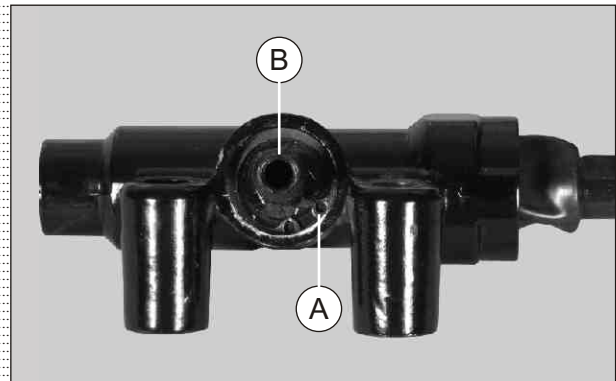

Fig. 6.115
- By firmly holding master cylinder housing, remove the circlip (A) by using circlip plier. (Fig. 6.115)
- Take out insert (B) from the master cylinder assembly. (Fig. 6.115)